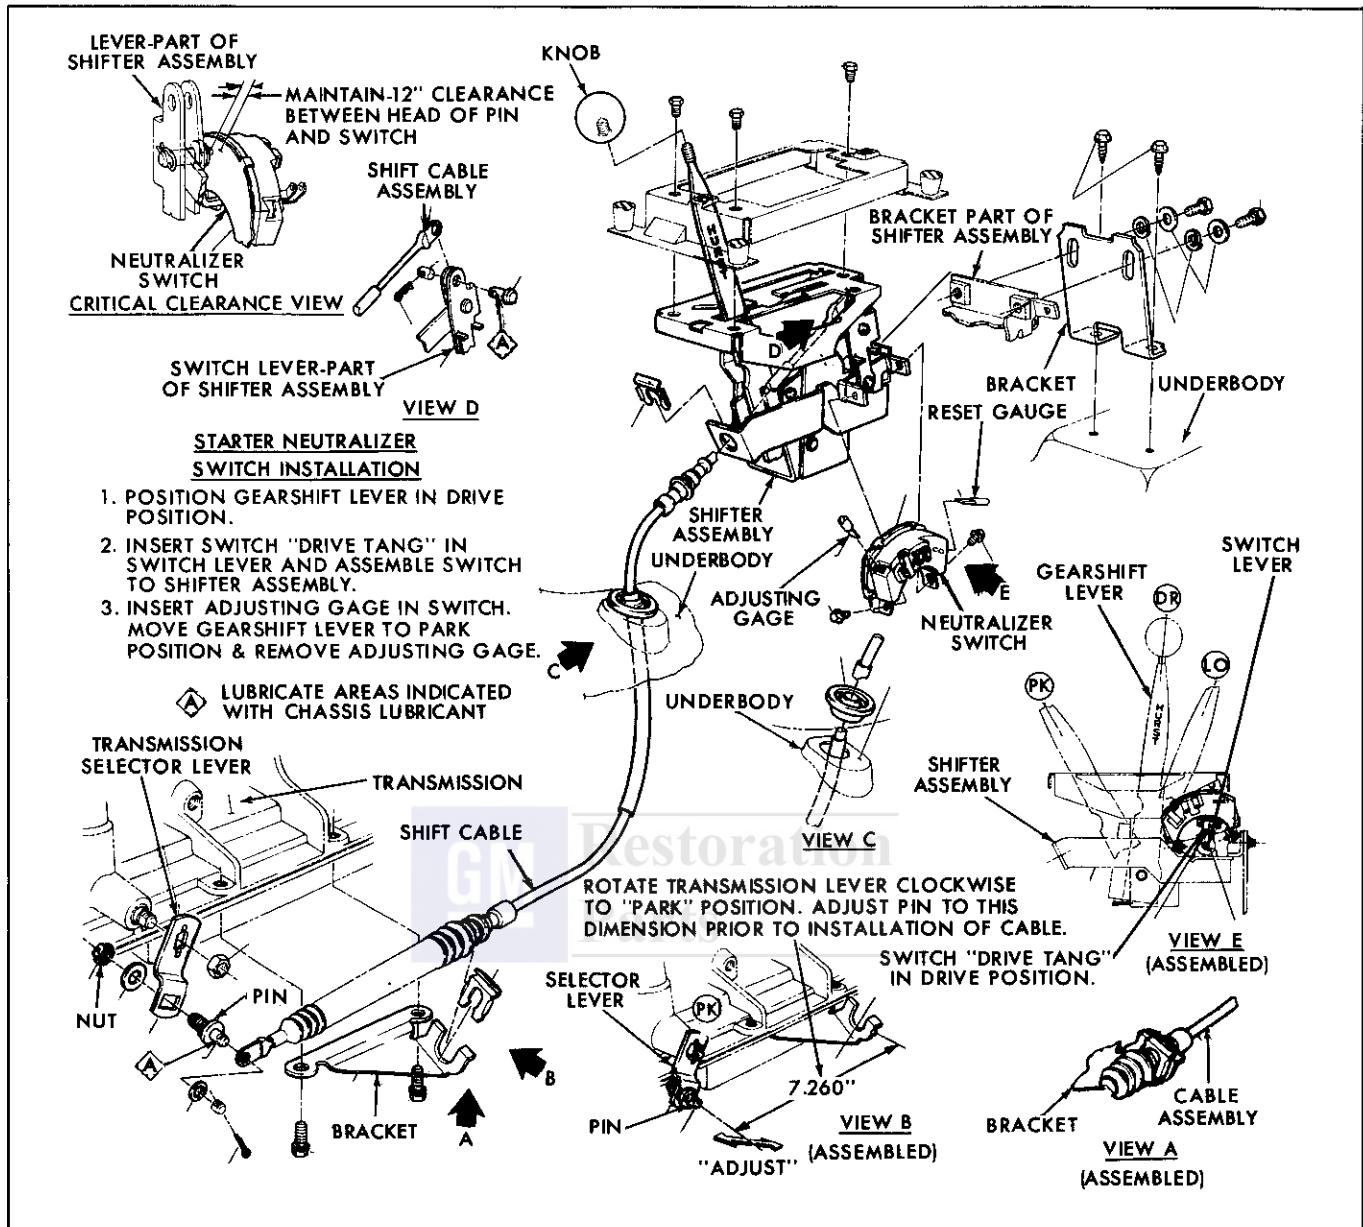

Fig. 7E-7 Gearshift Controls (Console) - GTO
2. Compress regulator boost valve bushing against pressure regulator spring and remove snap ring, using snap ring pliers and tool as shown in Fig. 7E-9.